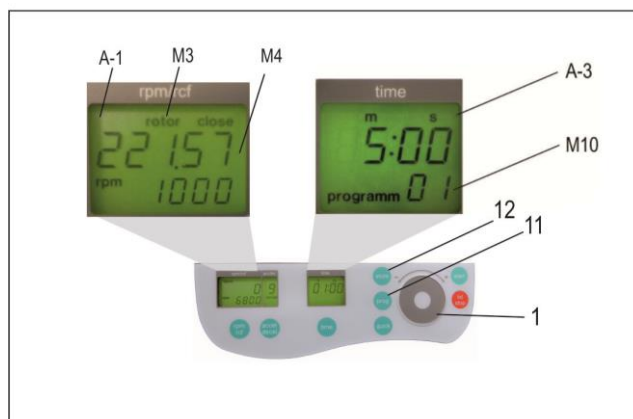

Figure 17
Put the desired rotor into the centrifuge. By pressing the key, "prog" (11), in the display "time" (A-3) appears the word "program", (see Figure 17). With the adjustable knob (1), choose the desired program number.
If a program number is already occupied, in the display "rpm/rcf" (A-1), the words "rotor" (M3) and e.g. "221.57" (M4) will appear, (see Figure 17). Free program numbers will appear as 0.